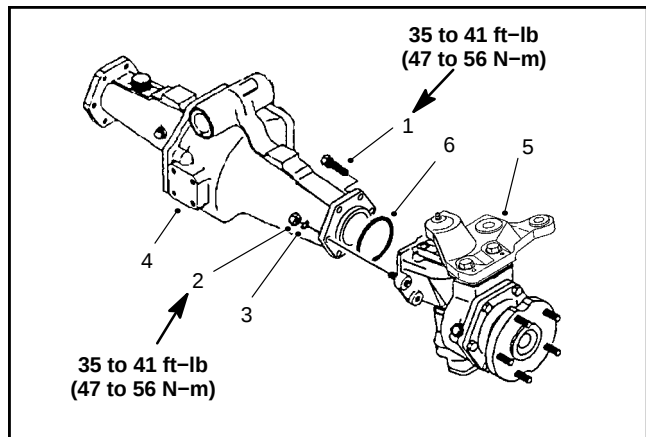

Figure 73
12. Coat a new O-ring with grease and install the bevel gear case/axle case assembly on the axle support. Tighten mounting screws and nuts from 35 to 41 ft-lb (47 to 56 N-m) (Fig. 73).
1. Remove the mounting screws, nuts and lock washers. Remove the bevel gear case/axle case assembly and O-ring from the axle support (Fig. 73).